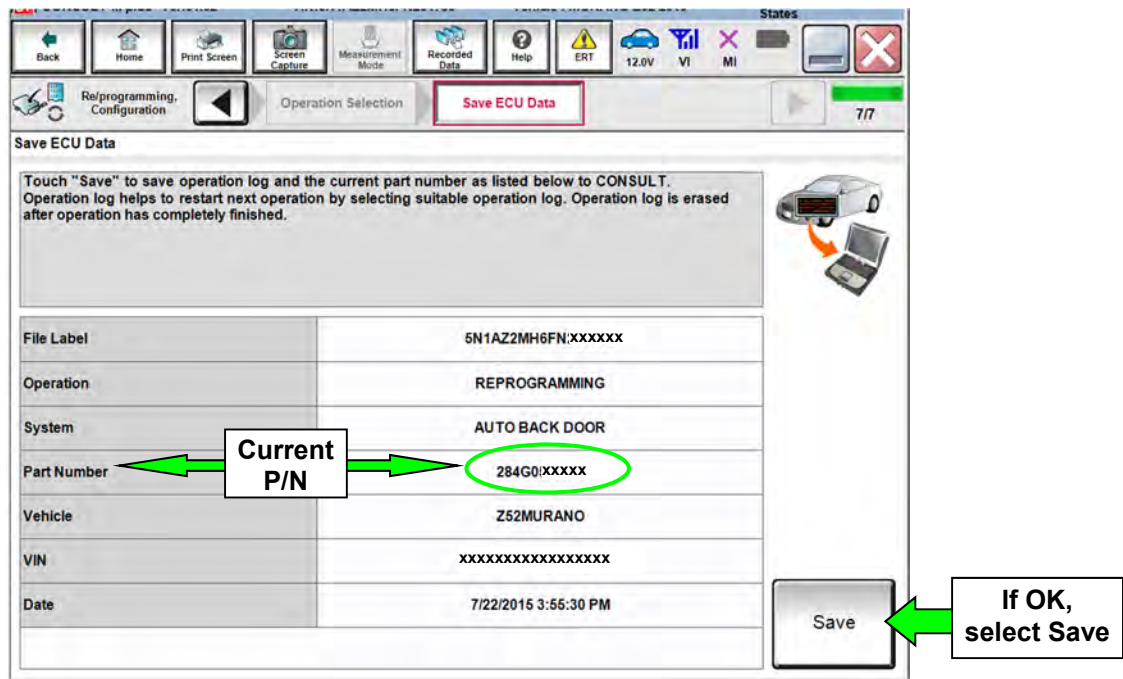

Figure 8
18. When you get to the screen shown in Figure 8, confirm reprogramming applies as follows: